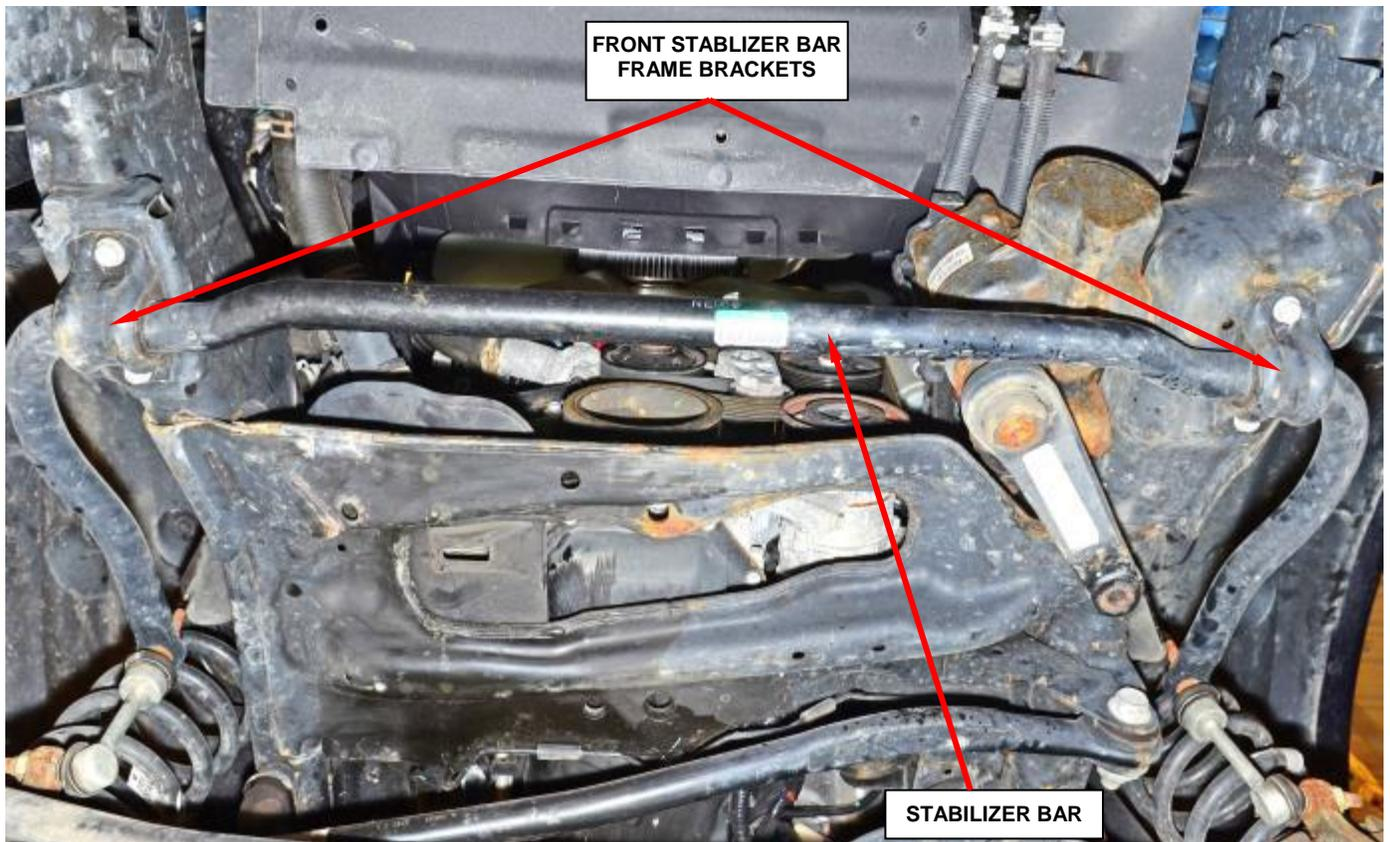

Figure 73 – Front Stabilizer Bar
17. Disconnect the front suspension stabilizer bar at the frame brackets (Figure 73).